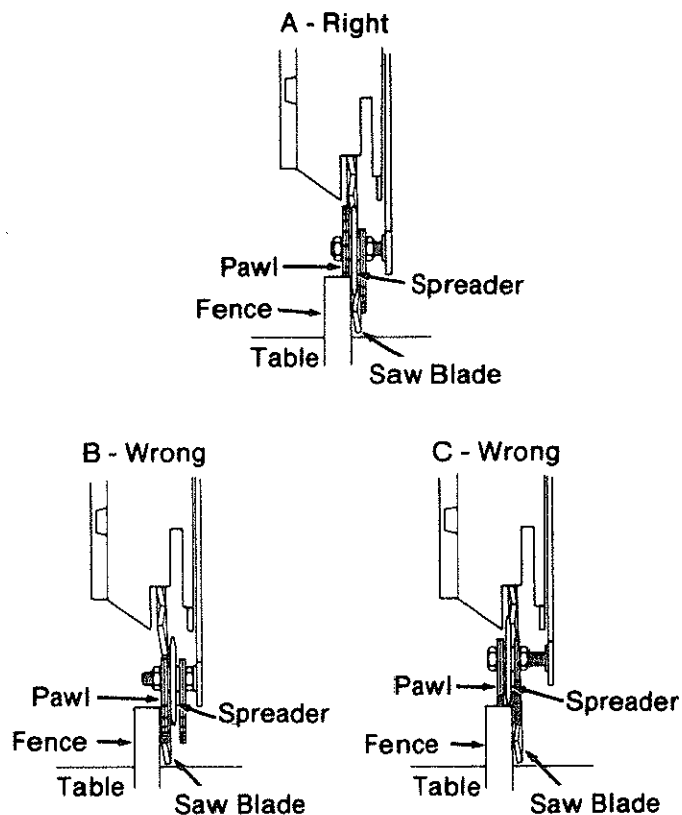

Fig. 128 - A,B,C
12. If the *spreader* and *blade* both rest against the *fence*, no adjustment is needed. (Figure 128-A) Go to step 17, or
If the *spreader* is in front of the *fence* but not touching it (Figure 128-B), go to step 13, or
If the *spreader* hits the top of the *fence* (Figure 128-C), go to step 13.